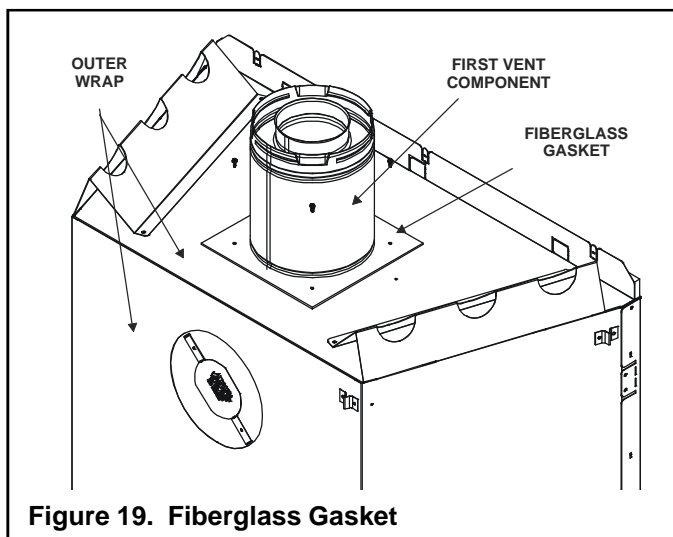

Figure 19. Fiberglass Gasket
- Make sure that the fiberglass gasket supplied in the manual bag seals between the first 8-5/8 inch (219mm) vent component and the outer fireplace wrap. Using 2 self-tapping screws from the manual bag, secure that gasket to the outer wrap (see Figure 19).